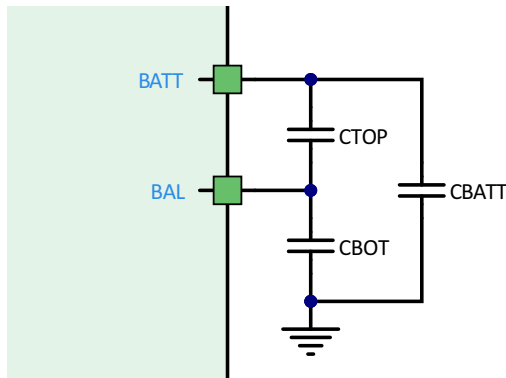
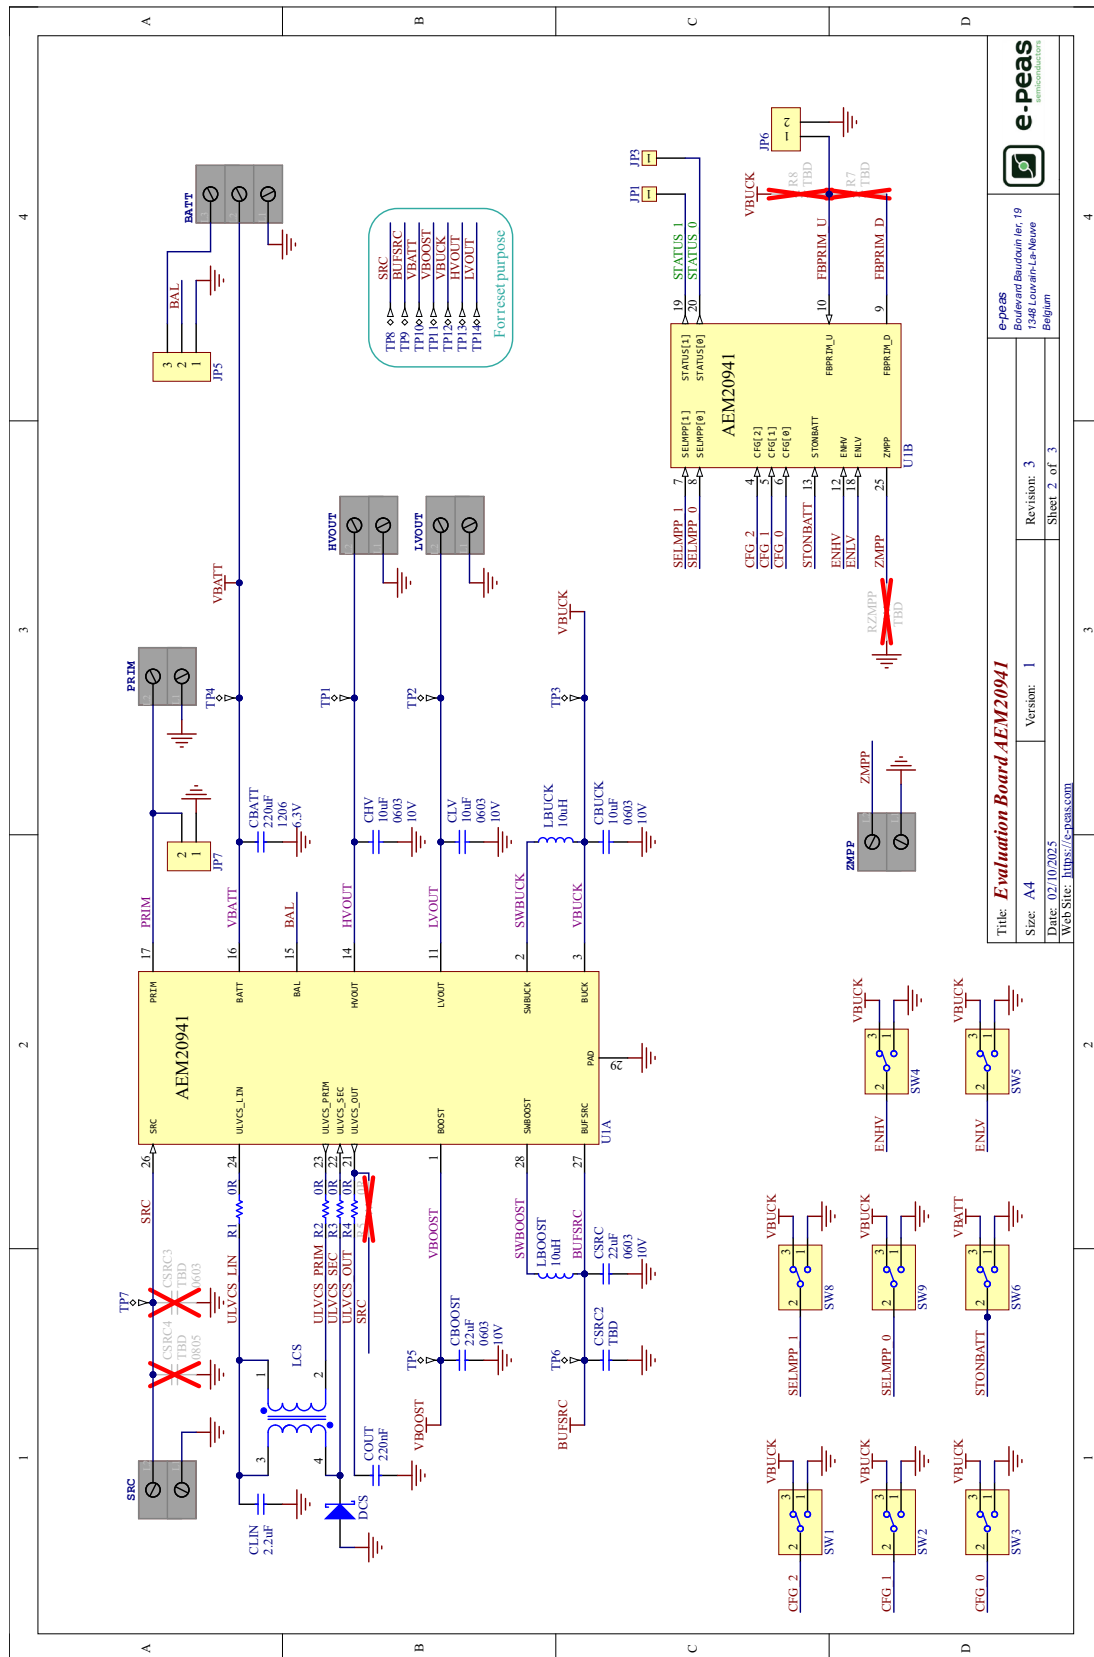

Figure 8: Capacitors connection for balancing
Figure 15: AEM20941 evaluation board schematic
The following test allows the user to observe the balancing circuit behavior. In this example, a mismatched dual-cell supercapacitor is simulated by using a 470 μF capacitor in series with a 330 μF capacitor, but any couple of capacitors could be used as long as the resulting capacitance seen by BATT matches the values specified in the “Recommended Operating Conditions” section from the AEM20941 datasheet. The capacitance mismatch must also be realistic, with a maximum factor of 2 between the top and the bottom capacitor (see Figure 8). Please note that the balancing circuit is enabled only if the voltage on the BAL pin is above $V_{\text{BAL,MIN}}$ (0.9 V). Please note that those capacitors are also in parallel with the on-board C_{BATT} capacitor, which can be seen on the EVK schematic (Figure 15).
- BATT: as shown on Figure 8, connect C_{TOP} between BATT and BAL, and C_{BOT} between BAL and GND.